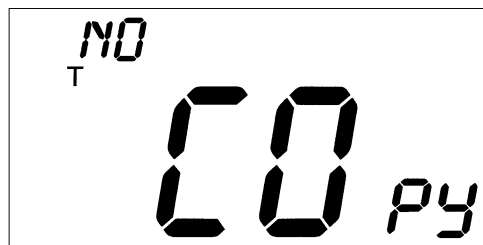

Fig. 8 — Copy Command Display
- The Copy command can be used to copy the previous day's schedule if the schedules are the same. The copy command becomes available after all the occupied periods are programmed in a day. Use the UP ARROW to change the copy command to YES. Use the DOWN ARROW to change the copy command to NO. Press the Mode button when the choice has been made. See Fig. 8. If NO was selected, the schedule will automatically change to the next day and the user must enter the occupied and unoccupied schedules for that day.